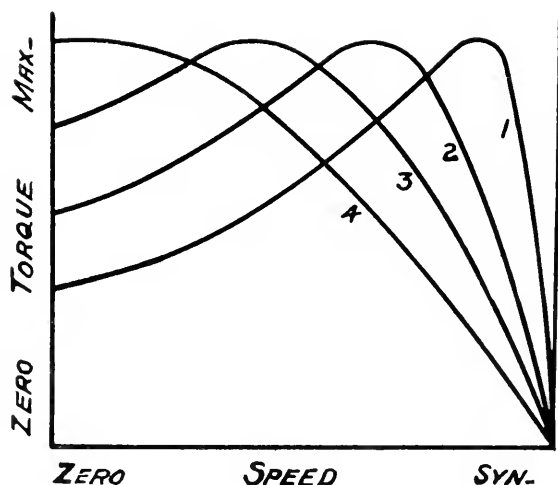

FIG. 2. CURVES SHOWING EFFECT ON LOAD OF EXTERNAL RESISTANCE IN ROTOR CIRCUIT OF WOUND ROTOR MOTORS.
* The characteristics of a motor are the relations existing between speeds and loads. See Fig. 2.
resistance in the rotor circuits the current is kept low during starting and the ability to start under load is greatly increased. This is well illustrated by the curves in Fig. 2. Examining curve 1, we see that beginning at zero speed the load (torque) is not very great, but it increases rapidly with increased speed. On the other hand, curve 4 representing conditions with a large resistance in the rotor circuit, shows heavy load at low speeds. Curves 3 and 2 represent similar conditions with decreasing resistance. Hence with a wound rotor it is possible to start under load with a large resistance in the circuit which can be cut out gradually as the speed increases, thus passing from curve 4 to 3 to 2 to 1. By working near the peaks of the curves, the maximum power of the motor is maintained.